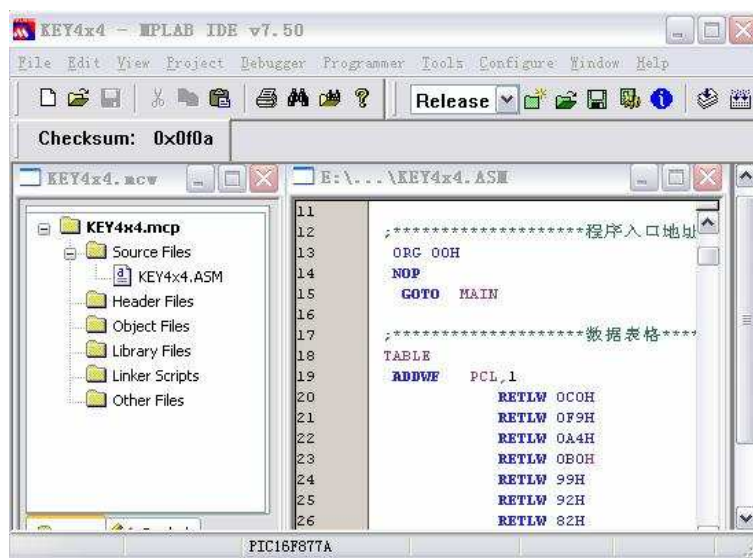

Figure 6-1 MPLAB interface after editing source code and establishing the project
- 2) In accordance with the method introduced in 2.2.1, establish a new engineering project, and complete the settings as below: select PIC16F877A in the second step as the target chip; select "Microchip MPASM Toolsuite" as the compiling tool in the third step; select "KEY4x4" as the new project name (the suffix can be omitted), and the directory for saving the project is the same as that of the source. After editing the source and establishing the project, MPLAB interface will be shown as Figure 6-1.